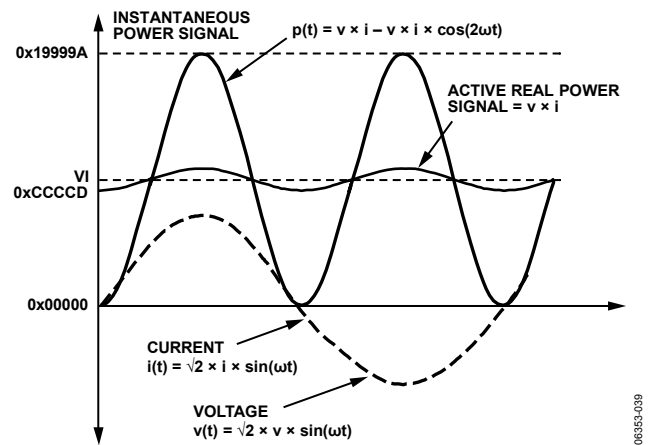

Figure 63. Active Power Calculation
Note that the active power is equal to the dc component of the instantaneous power signal $p(t)$ in Equation 11, that is, VI . This is the relationship used to calculate active power in the ADE7566/ADE7569/ADE7166/ADE7169. The instantaneous power signal $p(t)$ is generated by multiplying the current and voltage signals. The dc component of the instantaneous power signal is then extracted by LPF2 (low-pass filter) to obtain the active power information. This process is illustrated in Figure 63.
The ADE7566/ADE7569/ADE7166/ADE7169 also incorporate an active power offset register (WATTOS[15:0]). It is a signed, twos complement, 16-bit register that can be used to remove offsets in the active power calculation (see Figure 63). An offset can exist in the power calculation due to crosstalk between channels on the PCB or in the IC itself. The offset calibration allows the contents of the active power register to be maintained at 0 when no power is being consumed.
As mentioned in the Active Energy Calculation section, the discrete time sample period (T) for the accumulation register is 1.22 μ s (5/CLKIN). With full-scale sinusoidal signals on the analog inputs and the WGAIN register set to 0x000, the average word value from each LPF2 is 0xCCCCD (see Figure 63). The maximum positive value that can be stored in the internal 49-bit register is 2^{48} (or 0xFFFF,FFFF,FFFF) before it overflows. The integration time under these conditions when WDIV = 0 is calculated in the following equation: